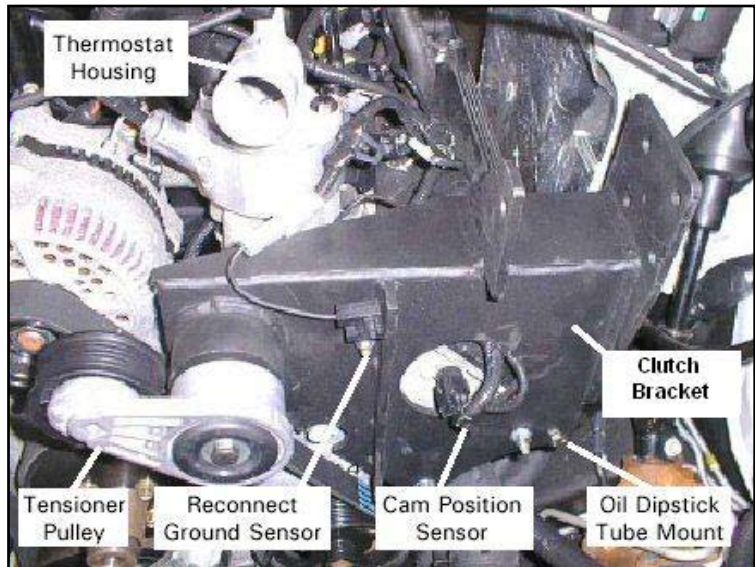

Figure 11. Route Ground Sensor through Hole with Cam Position Sensor
11. Route the ground sensor through the hole with the cam position sensor and attach it to the top left-hand stud. Loctite® and torque all nuts to 15 –17 ft lbs. See Figure 11.
12. Bolt the oil dipstick tube to the hole in the clutch bracket. See Figure 11.